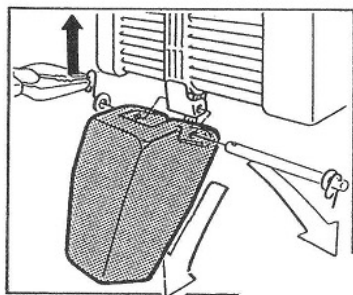

fig.85
4. Climb onto the ladder or scaffolding and use the pliers to remove the cotter pin, remove the pin and bring the chain box to the ground. (fig.85)